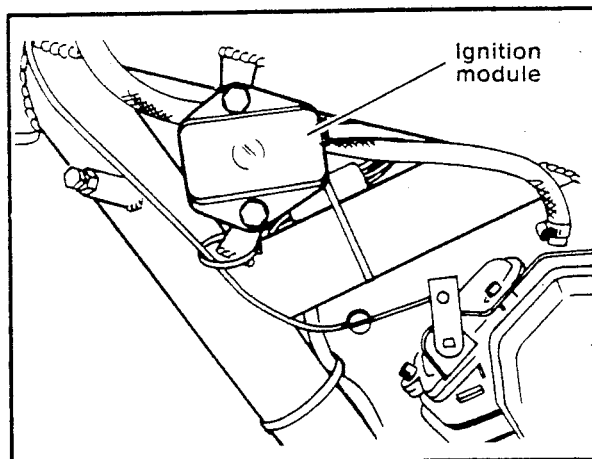

Figure 4-5. Ignition Module Position
9. See Figures 4-5 and 4-6. When assembling the module box and ignition coil, position as shown.